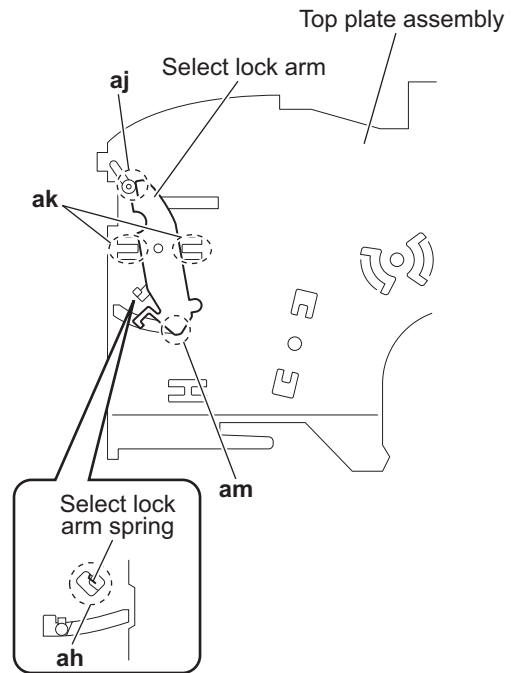

Fig.18
- (5) From the bottom side of the top plate assembly, remove the select lock arm spring from the section **ah**. (See Fig.18.)
- (6) From the top side of the top plate assembly, remove the section **aj** of the select lock arm from the top plate assembly at first and remove the sections (**ak**, **am**) of the select lock arm from the top plate assembly. (See Fig.18.)
- When removing the select lock arm spring, be careful not to lose it. (See Fig 18.)